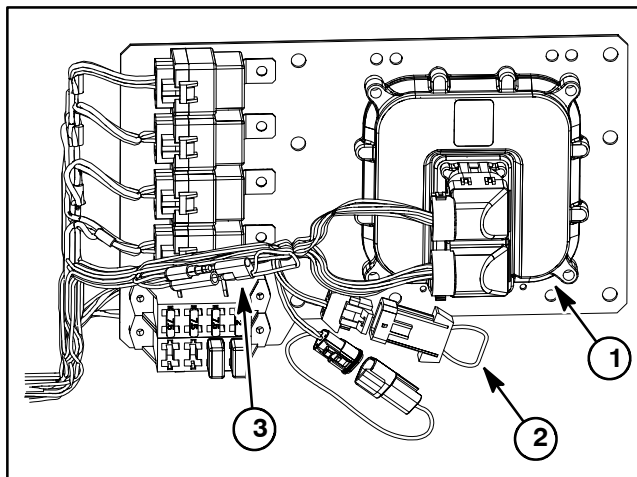

Figure 11
2. Locate Ultra Sonic Boom wire harness communication port and loopback connector (6 pin connector) located near the TEC controller on the mounting plate under the dash panel (Fig. 11). Carefully unplug loopback connector from harness connector.